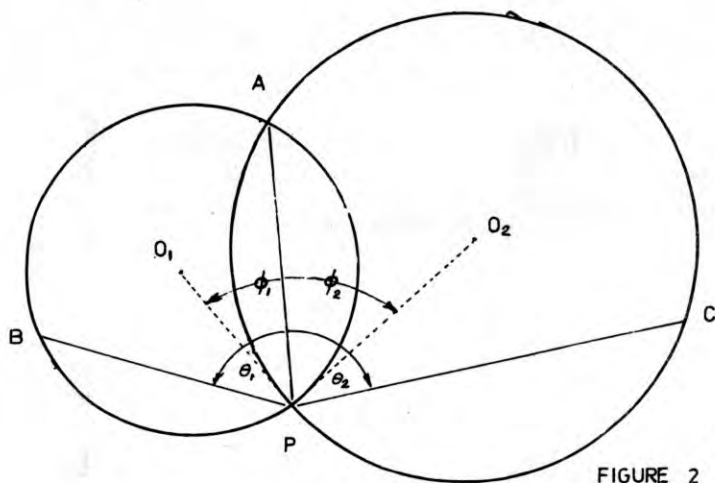

FIGURE 2
2.02 Since A and B are fixed points, (despite the fact that their position is not known, or only known approximately), there is only one unique circle which passes through them to which they subtend θ_1 . The bearing of the tangent to this circle at P_1 can be divided by calculating the angle between D_1 and the radius O_1P (ϕ_1), and adding 90° . (See Figure 2). Since, in most cases, the radius of the circle is very large; and we are only concerned with the area in the immediate vicinity of P, this tangent can be considered as approximately the actual arc of the circumscribing circle. Thus a straight line could be drawn on the ground through P, on the above deduced bearing exactly representing the circle through A and B. Any point on this line will subtend θ_1 to A and B. A similar line could be drawn on the ground representing the circle through A and C.